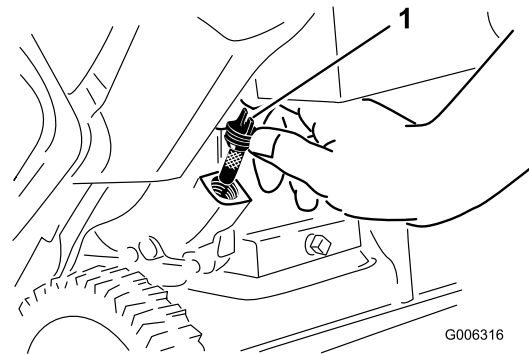

Figure 30
6. Clean around the oil fill cap Figure 30.
7. Unscrew the oil fill cap and remove it Figure 30.